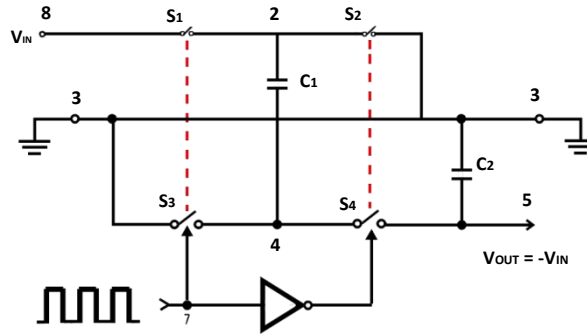
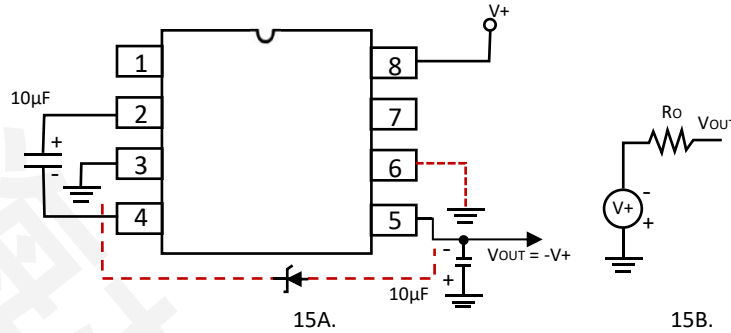
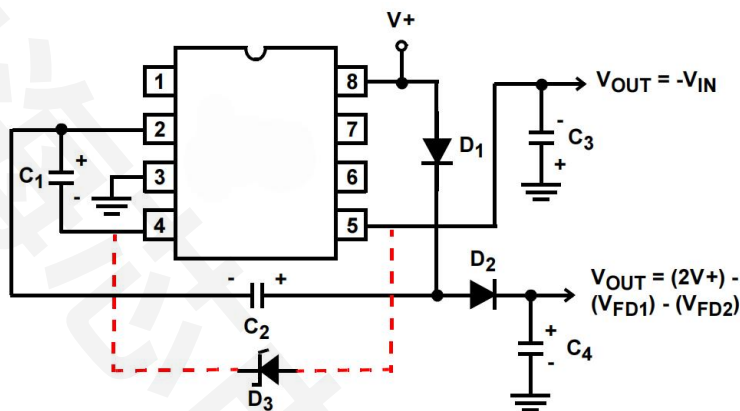
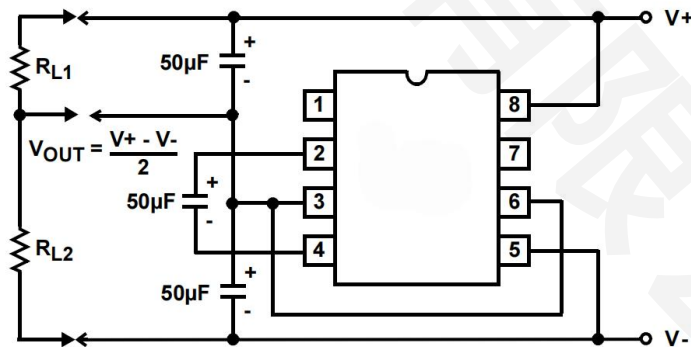

FIGURE 14. IDEALIZED NEGATIVE VOLTAGE CONVERTER
FIGURE 15. SIMPLE NEGATIVE CONVERTER AND ITS OUTPUT EQUIVALENT
FIGURE 19. COMBINED NEGATIVE VOLTAGE CONVERTER AND POSITIVE DOUBLER
FIGURE 20. SPLITTING A SUPPLY IN HALF
The ICL7660CPAZ-HX contain all the necessary circuitry to complete a negative voltage converter, with the exception of two external capacitors, which may be inexpensive $10\mu F$ polarized electrolytic types. The mode of operation of the device may best be understood by considering Figure 14, which shows an idealized negative voltage converter. Capacitor C_1 is charged to a voltage, V^+ , for the half cycle, when switches S_1 and S_3 are closed. (Note: Switches S_2 and S_4 are open during this half cycle). During the second half cycle of operation, switches S_2 and S_4 are closed, with S_1 and S_3 open, thereby shifting capacitor C_1 to C_2 such that the voltage on C_2 is exactly V^+ , assuming ideal switches and no load on C_2 . The ICL7660CPAZ-HX approach this ideal situation more closely than existing non-mechanical circuits.
In the ICL7660CPAZ-HX, the four switches of Figure 14 are MOS power switches; S1 is a P-Channel device; and S2, S3 and S4 are N-Channel devices. The main difficulty with this approach is that in integrating the switches, the substrates of S3 and S4 must always remain reverse biased with respect to their sources, but not so much as to degrade their “ON” resistances. In addition, at circuit start-up, and under output short circuit conditions ($V_{OUT} = V+$), the output voltage must be sensed and the substrate bias adjusted accordingly. Failure to accomplish this would result in high power losses and probable device latch-up.
where V1 and V2 are the voltages on C1 during the pump and transfer cycles. If the impedances of C1 and C2 are relatively high at the pump frequency (see Figure 14) compared to the value of RL, there will be a substantial difference in the voltages, V1 and V2. Therefore it is not only desirable to make C2 as large as possible to eliminate output voltage ripple, but also to employ a correspondingly large value for C1 in order to achieve maximum efficiency of operation.
The majority of applications will undoubtedly utilize the ICL7660CPAZ-HX for generation of negative supply voltages. Figure 15 shows typical connections to provide a negative supply where a positive supply of +1.5V to +12V is available. Keep in mind that pin 6 (LV) is tied to the supply negative (GND) for supply voltage below 3.5V.
The output characteristics of the circuit in Figure 15 can be approximated by an ideal voltage source in series with a resistance as shown in Figure 15B. The voltage source has a value of $-(V+)$. The output impedance (R_O) is a function of the ON resistance of the internal MOS switches (shown in Figure 14), the switching frequency, the value of C_1 and C_2 , and the ESR (equivalent series resistance) of C_1 and C_2 . A good first order approximation for R_O is shown in Equation 2:
Figure 19 combines the functions shown in Figure 15 and Figure 18 to provide negative voltage conversion and positive voltage doubling simultaneously. This approach would be suitable, for example, for generating +9V and -5V from an existing +5V supply. In this instance, capacitors C1 and C3 perform the pump and reservoir functions, respectively, for negative voltage generation, while capacitors C2 and C4 are pump and reservoir, respectively, for the doubled positive voltage. There is a penalty in this configuration which combines both functions, however, in that the source impedances of the generated supplies will be somewhat higher, due to the finite impedance of the common charge pump driver at pin 2 of the device.
The bidirectional characteristics can also be used to split a high supply in half, as shown in Figure 20. The combined load will be evenly shared between the two sides, and a high value resistor to the LV pin ensures start-up. Because the switches share the load in parallel, the output impedance is much lower than in the standard circuits, and higher currents can be drawn from the device. By using this circuit, and then the circuit of Figure 15, +15V can be converted, via +7.5 and -7.5, to a nominal -15V, although with rather high series output resistance ($\sim 250\Omega$).